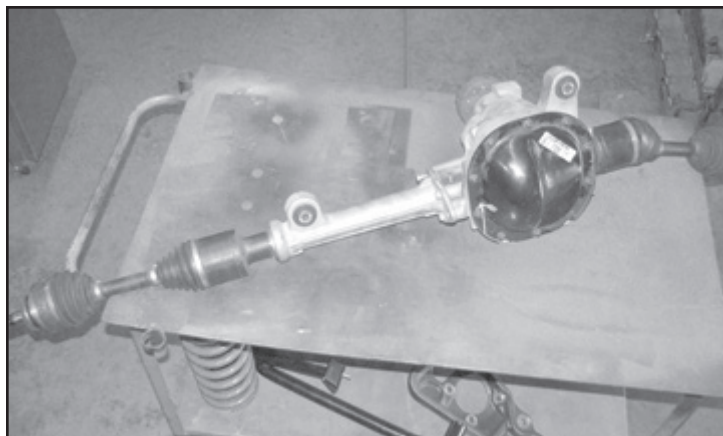

FIGURE 9 - STEP 16
16. Remove the driver side rear differential mount hardware and discard. While supporting the differential, remove the two upper differential mount bolts and remove the differential and axles from the vehicle. Save the hardware. **SEE FIGURE 9**